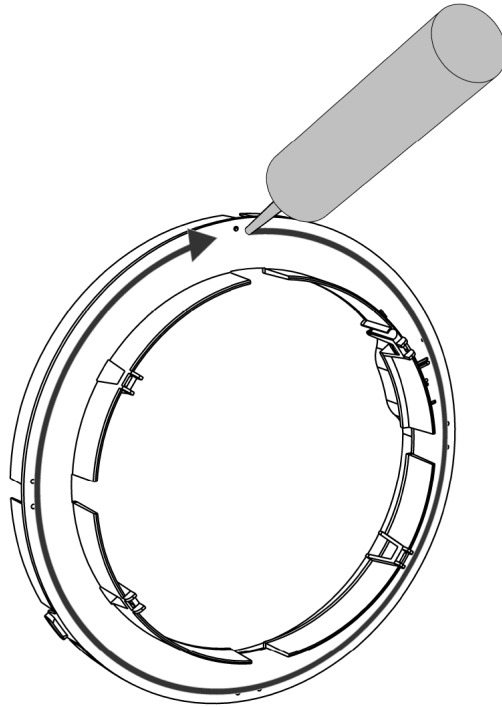

Figure 18 - Application of elastic sealant to the wall cover
The wall cover (5) is mounted next. Before this can be done, the elastic sealant should be applied to the back of the wall cover, see Figure 18.